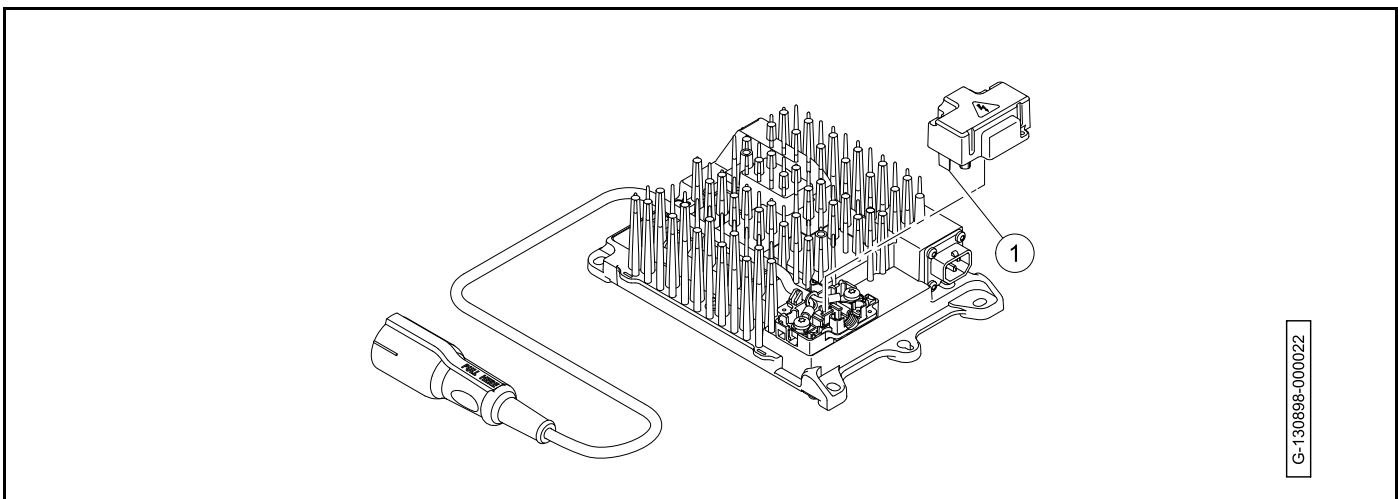

Figure 15-17 Terminal Block Cover
3. Push in the mounting tabs (1) and remove the terminal block cover (**Figure 15-17, Page 15-32**).
2. Push the terminal block cover until the mounting tabs (1) lock (**Figure 15-17, Page 15-32**).